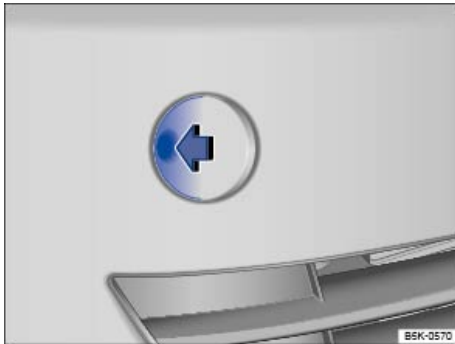

Fig. 190 In the right front bumper: Removing the cover.
- Push on the left side of the cover ⇒ fig. 190 (arrow) so that it pops out.